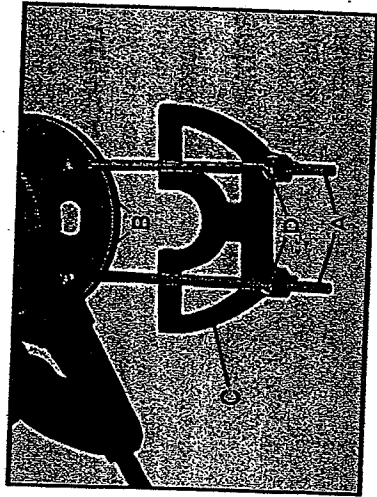

Fig. 10
To assemble, insert guide rods (A) in holes in base, Fig. 10 and secure with screws (B). The guide (C) is adjusted on the rods and secured in desired position with thumb screws (D).